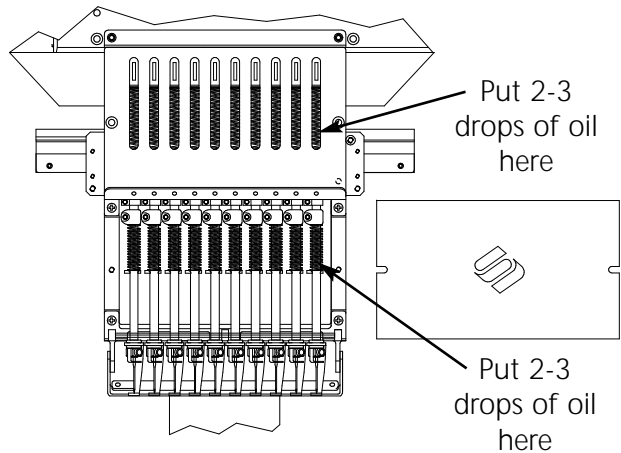

Figure 4-8
1. When **upper/lower needle bar** displays, press . No motion is required. Refer to Figure 4-8 to lubricate the upper and lower needle bars. Lubricate the needle bars for all ten needles. Press  when done.